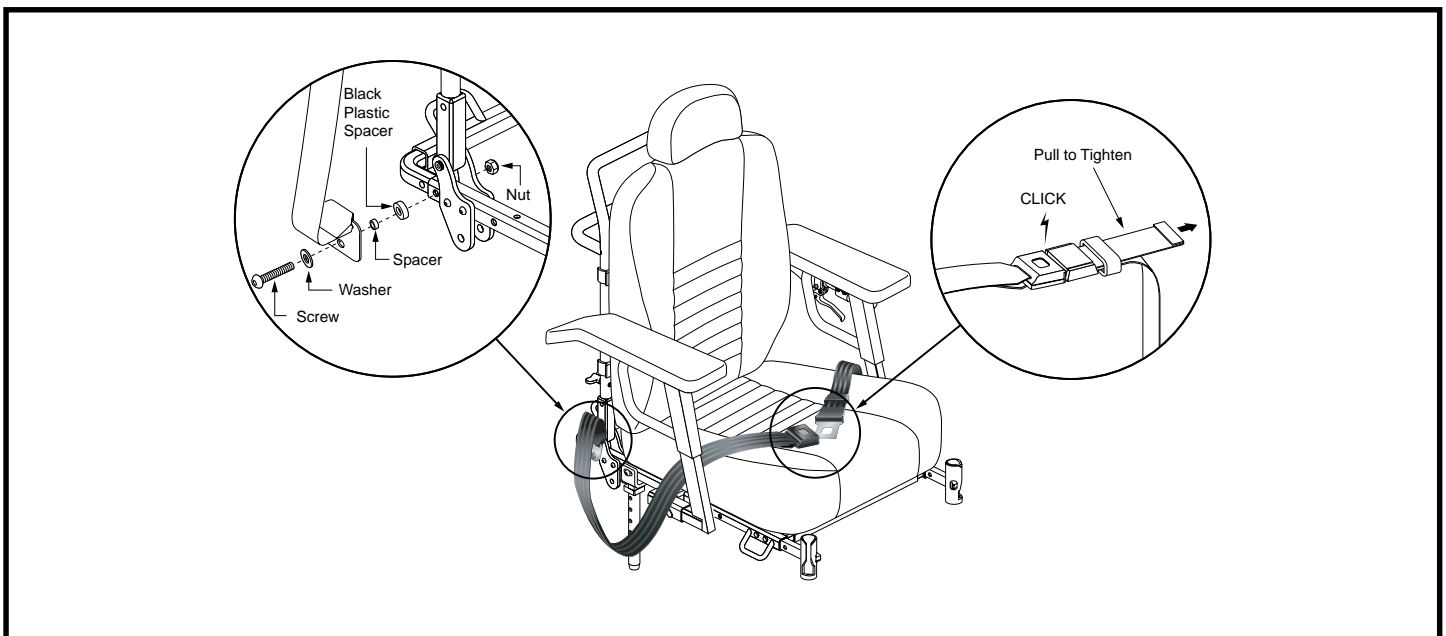

Figure 20. Positioning Belt Installation and Adjustment
1. Insert the screw through the washer and the mounting tab at the end of the positioning belt. See figure 20.